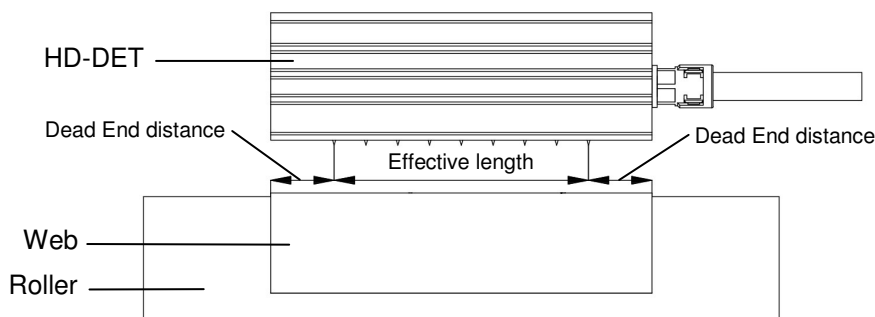

Figure 4: Installation HD-DET
- Mask the parts of the detection bar extending beyond the material path with a cover plate in case the effective length exceeds the material width minus the dead end distances (fig. 4) (you have to cut the plate to the correct length yourself). **This is not recommended, a correct effective length in combination with the material width is the best technical solution!**